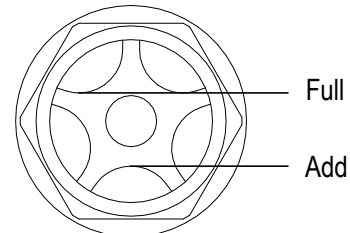

Figure 2
4. Start the unit and run for several minutes. Shut the air compressor down and check the oil level. If necessary, add more oil. (Figure 2)